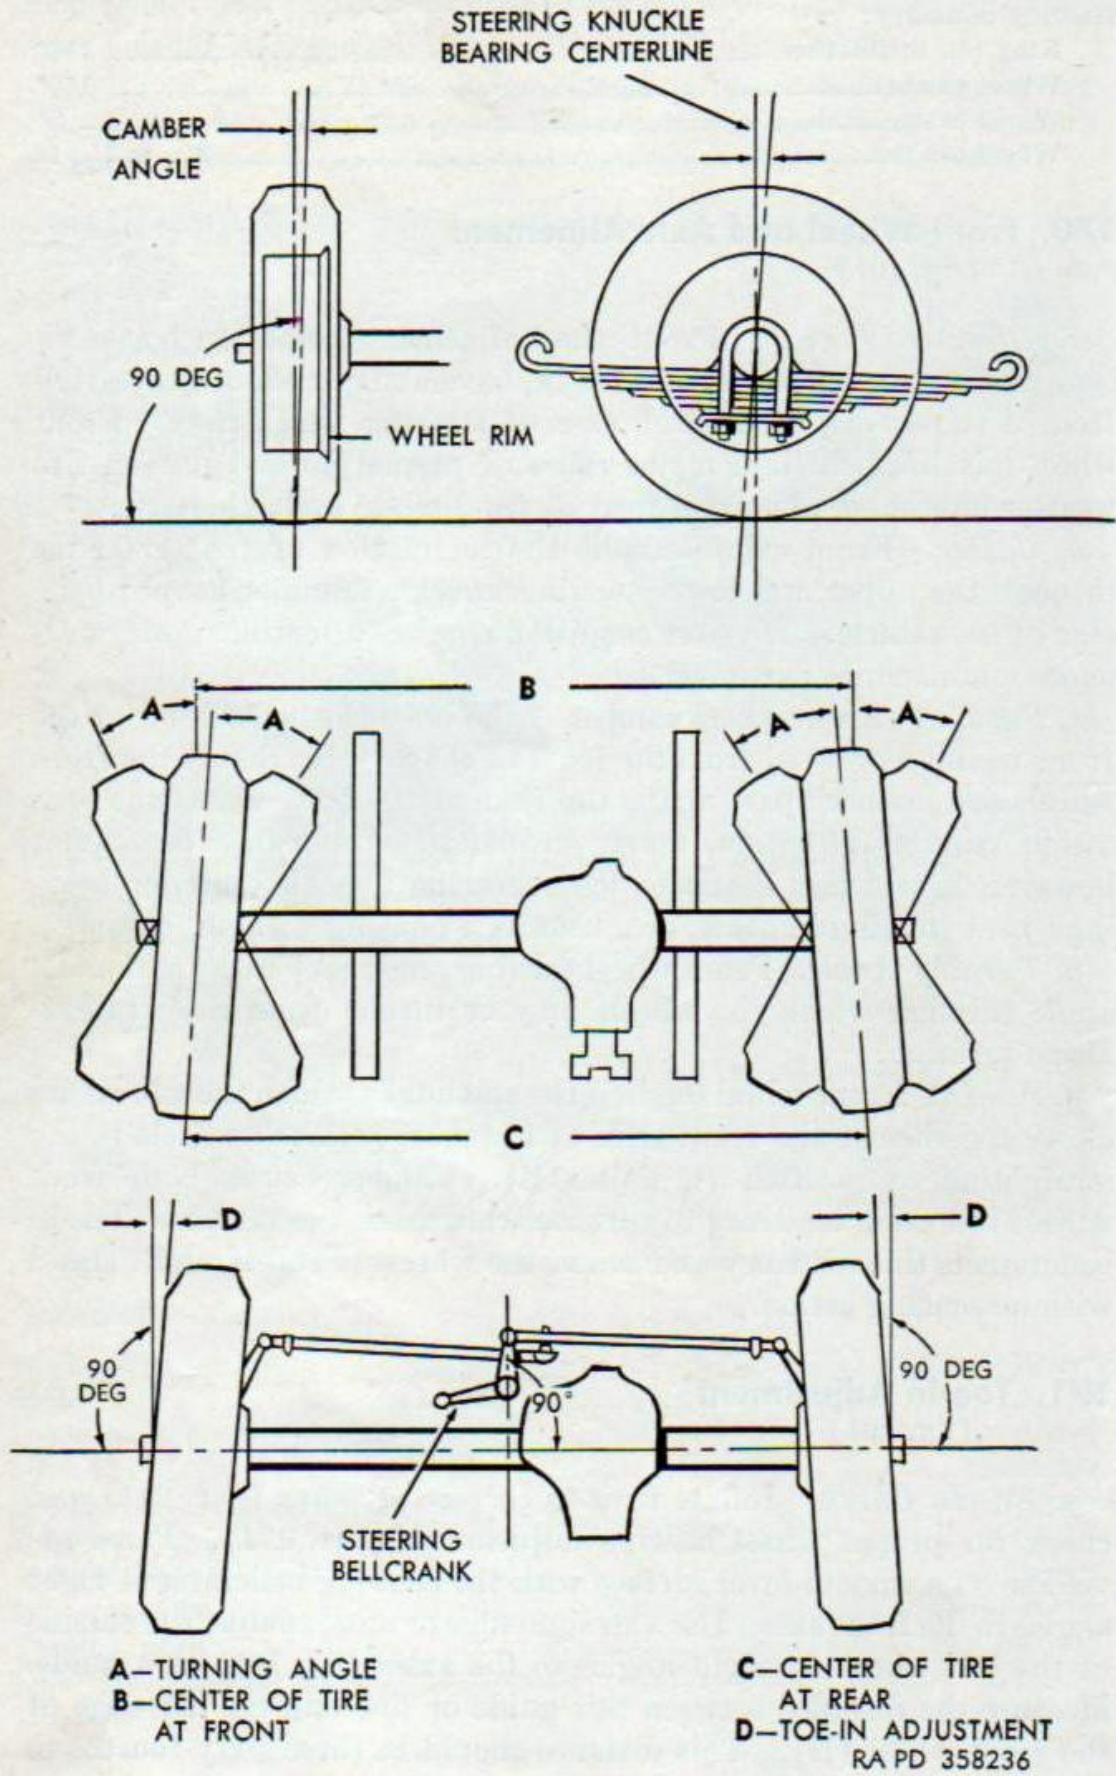

Figure 101. Front wheel and axle alignment chart.
(fig. 101)
*a. Toe-In Check.* Inflate tires to correct pressure (par. 211) and check for proper wheel bearing adjustment (par. 174). Place the vehicle on a smooth level surface with the steering bellcrank at right angles to the front axle. Use a straightedge or aline against the outside of the left wheels at right angles to the axles (fig. 101) as a guide. Measure the distance between this guide or line and the flat edge of the front wheel (D). This distance should be three sixty-fourths to three thirty-seconds of an inch.